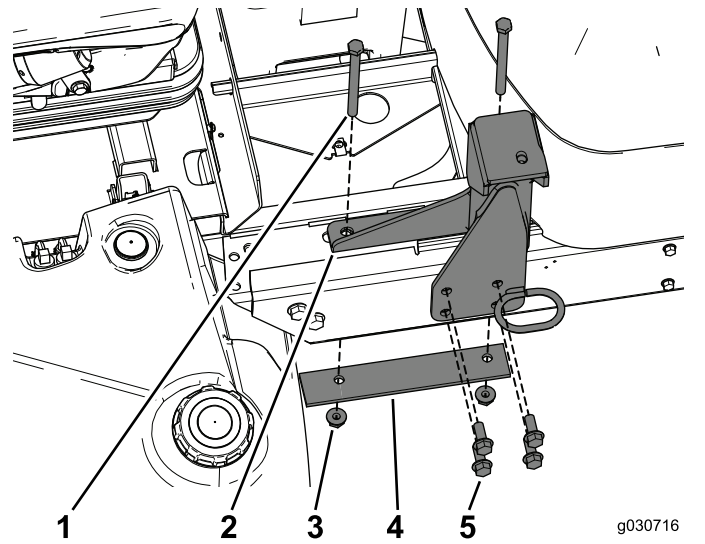

Figure 20
1. Use the new hardware to secure the left rear mount to the frame (Figure 20).